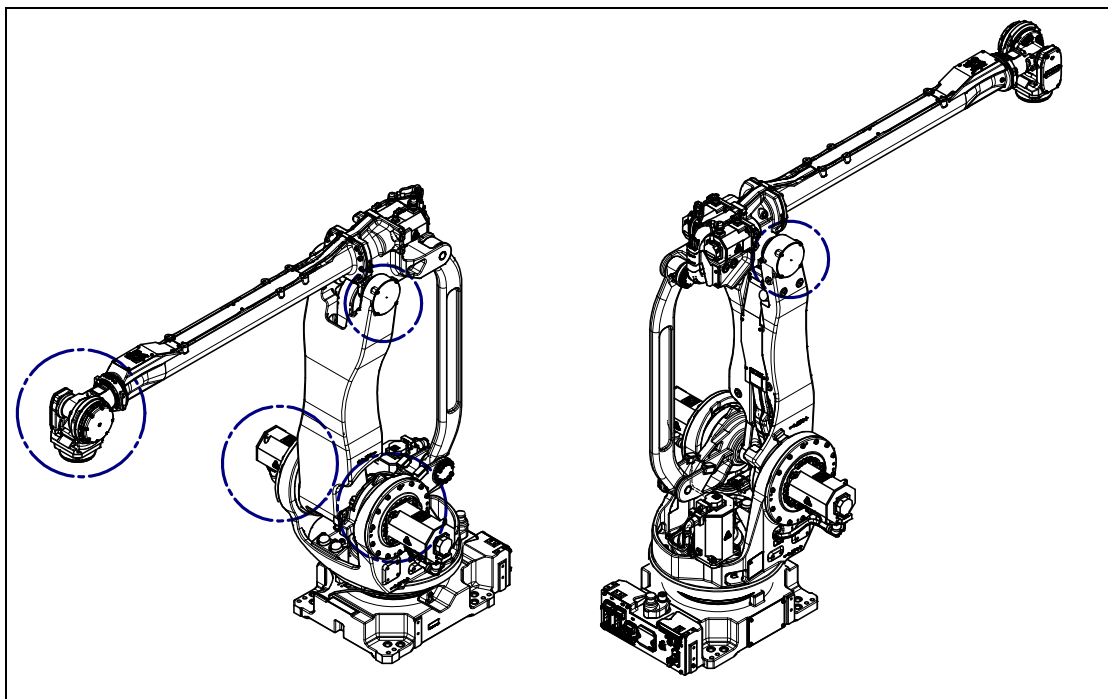

Fig. 7.2.1 Check parts of oil seepage
- Oil might accumulate on the outside of the seal lip depending on the movement condition or environment of the axis. If the oil viscosity changes, the oil might drip depending on the axis movement. To prevent oil spots, be sure to wipe away any accumulated oil under the axis components in Fig. 7.2.1 before you operate the robot.